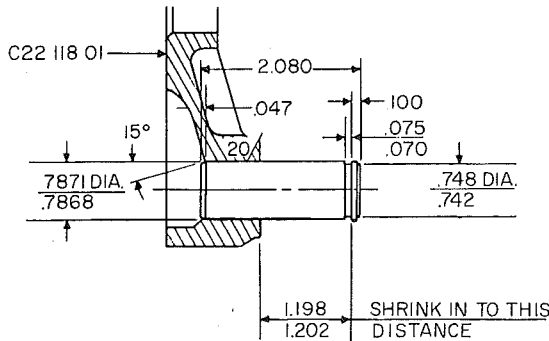

FIG. 38—BELT IDLER DIMENSIONS
b. Shrink the shaft into the bearing to the dimensions shown in figure 38. Install the assembled pulley and bearings on the shaft; attach by installing the snap ring.